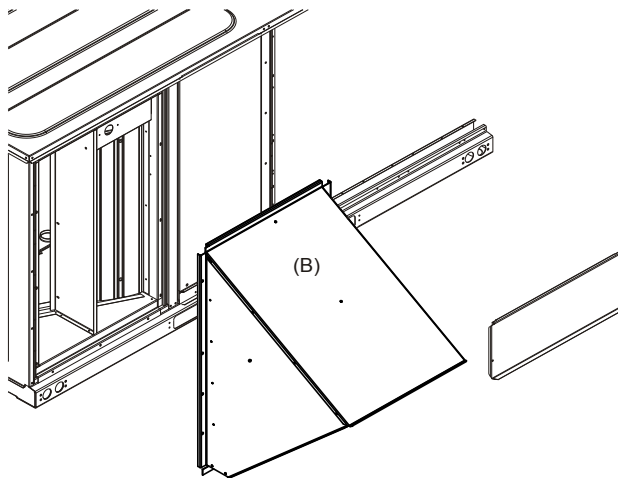

Figure 9
Install Filler Panel (D) under top of RTU and over top of Economizer Hood (B). Secure the right side of Filler Panel (D) with 1 self-tapping 10-16 x ½ screw provided with Economizer and secure the left side with 1 screw that was retained in **Step 2**. See **Figure 9**.